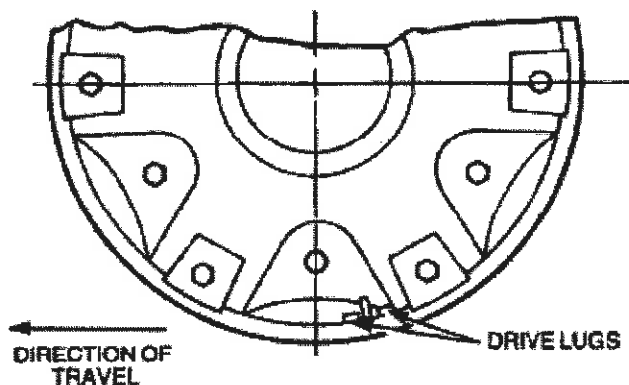
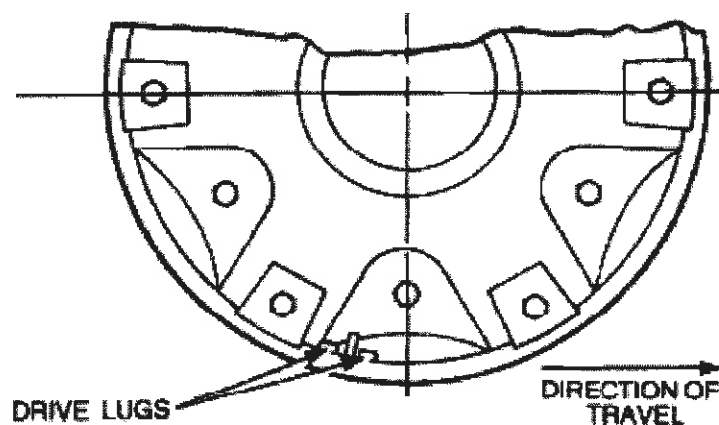

Figure 21 Left Side Wheel - Drive Lug Location
Figure 22 Right Side Wheel - Drive Lug Location
- c. Ensure that the drive lugs are positioned as shown for a left side wheel (Figure 21) or for a right side wheel (Figure 22).
- g. Ensure that the drive lugs are positioned as shown (Figure 21) for a left side wheel or (Figure 22) for a right side wheel.